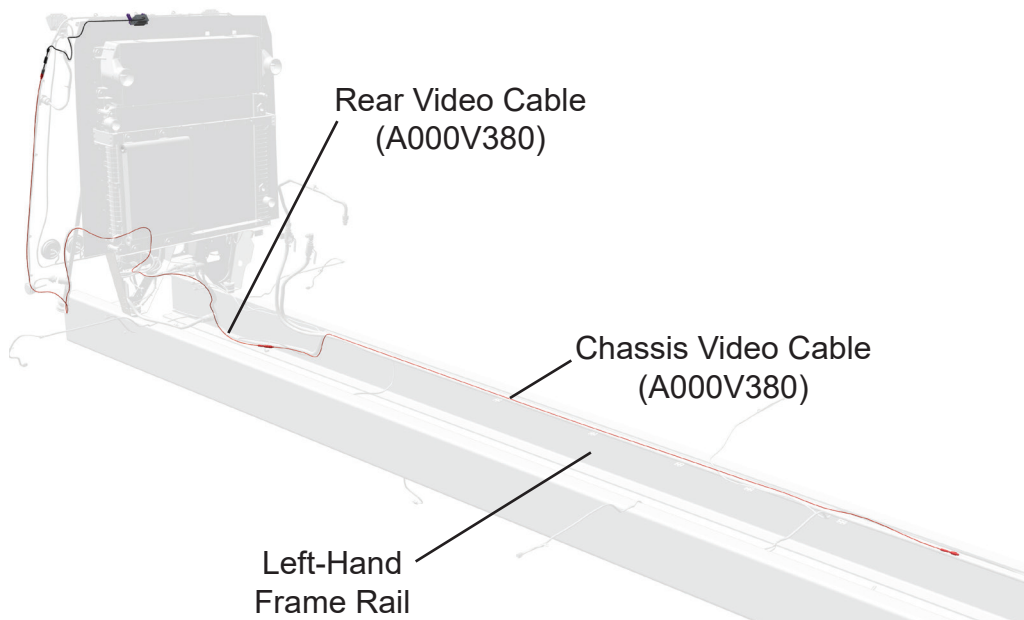

Figure 5
10. Route the chassis video cable along the left-hand frame rail, see Figure 5.